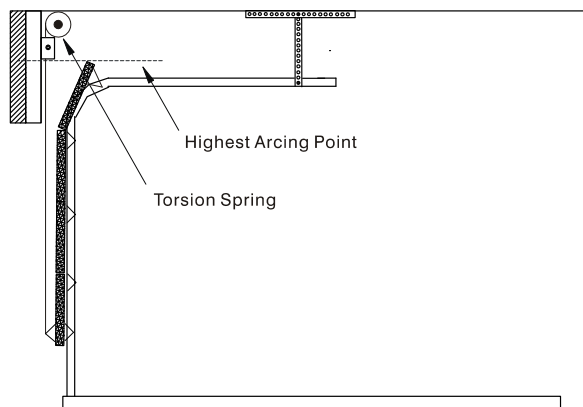

Fig. 4
- Determine the highest arcing point of the garage door and mark this as a horizontal line on the header above the top edge of the garage door. (Figs.4 & 5)